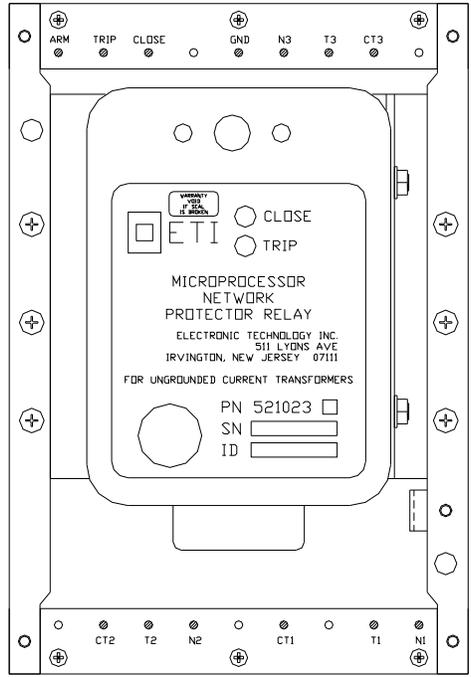

Figure 3: WH Relay
- D. Jumper the Arm and Trip contacts on the network protector relay socket (1 and 2 on WH, 3 and 1 on GE -- See Figures 3 and 4). The protector should trip.
- D. Jumper the Arm and Close contacts on the network protector relay socket (1 and 3 on WH, 3 and 2 on GE -- See Figures 3 and 4). The mechanism should **NOT** pick up.
- F. Jumper the Arm and Close contacts on the network protector relay socket (1 and 3 on WH, 3 and 2 on GE -- See Figures 3 and 4). The protector should close.